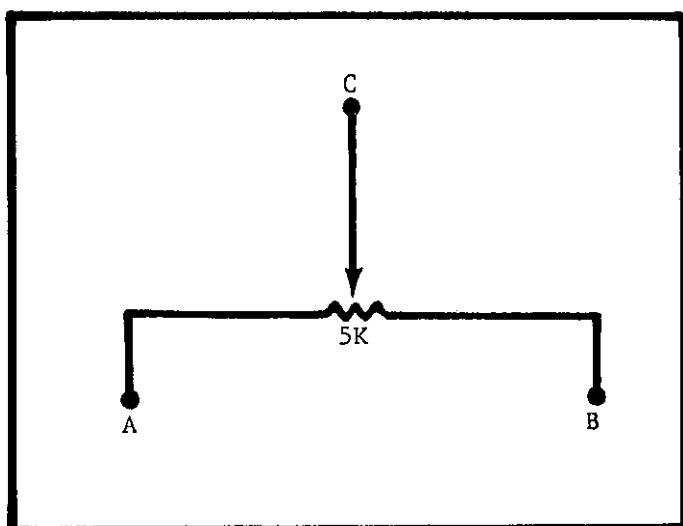

FIGURE 17. Remote Mounted Zero Control.
c. External zero control connections (Figure 17).
2. Connect the external potentiometer to terminals A, B and C (Figure 2). Refer to Figure 17.